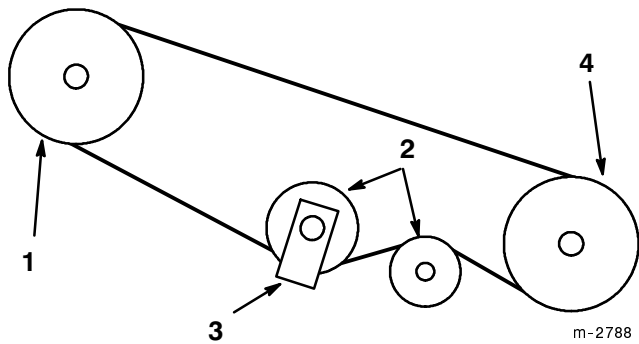

Figure 11
15. Route belt between belt guide and around idler pulleys (Fig. 11).
16. Rotate idler bracket to stretch spring and slip belt over snowthrower pulley (Fig. 11),